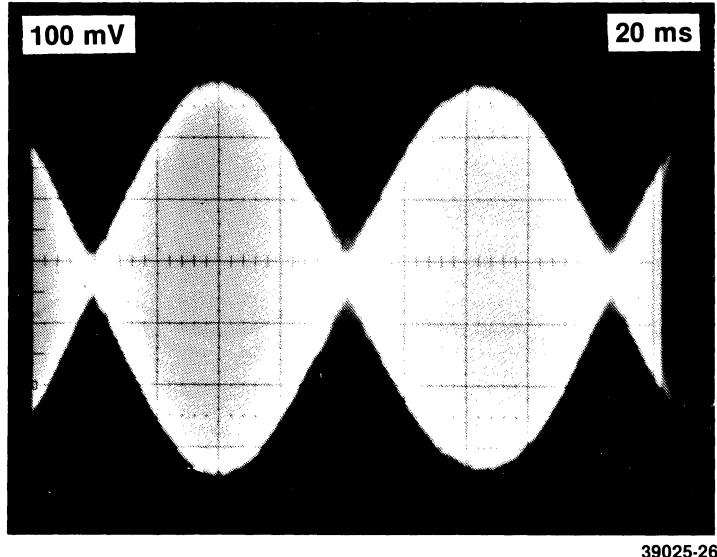

FIGURE 5-10. HEAD RADIAL ALIGNMENT
- e. Two lobes must be within 70% amplitude of each other. If lobes do not fall within specification, continue with procedure. See figure 5-10.